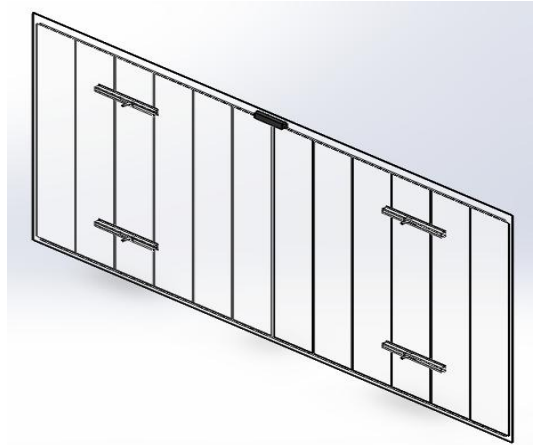
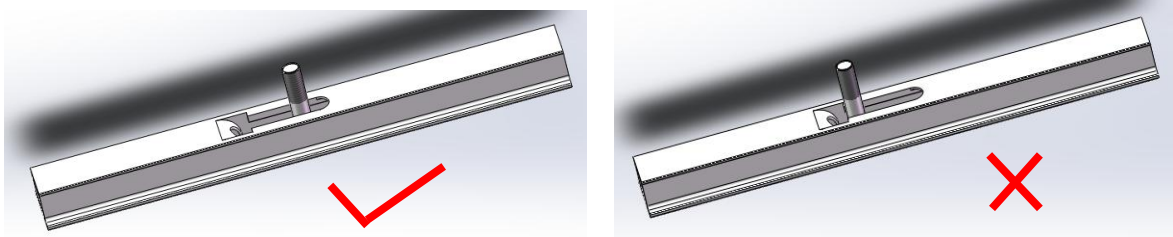

Figure 13 Single side double glass modules installed with hook
Figure 14 The hex nut cannot be fixed on the head of the insert place
**6.3.3.1** Modules can be attached through the hook on the back side of the module, by fixing the module to the support rails with M8 bolt (for 60 version of the series) and M10 bolt (for 72 version of the series). The module backside has 4 hooks. (Figure 13) The minimum distance between two modules is 10mm. The hex nut cannot be fixed on the head of the insert place. The connecting surface of the support must keep smooth. (Figure 14)